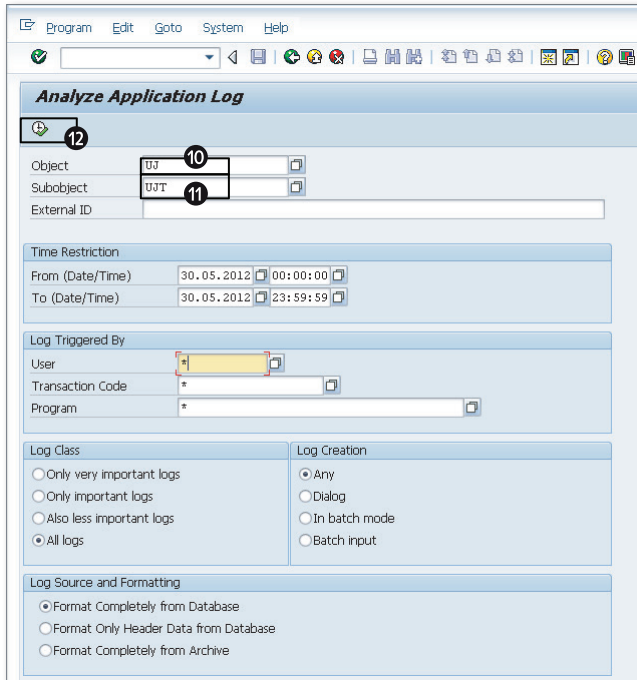

Figure 8.5 Transporting Objects in SAP BPC for NetWeaver—Part E
10. When a transport fails, you can get additional information about the details of the transport. To display the logs, you can view the log associated to the transport either by using either Transaction SE09 or Transaction SLG1. When using Transaction SLG1, enter "UJ" in the OBJECT field, enter "UJT" in the SUBOBJECT field, and click on EXECUTE (Figure 8.5, ⑩, ⑪, and ⑫).